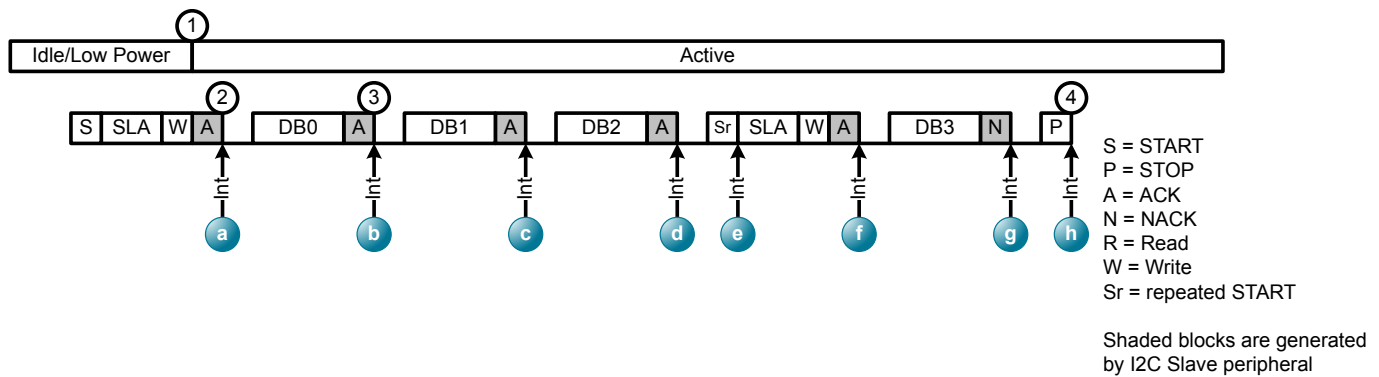
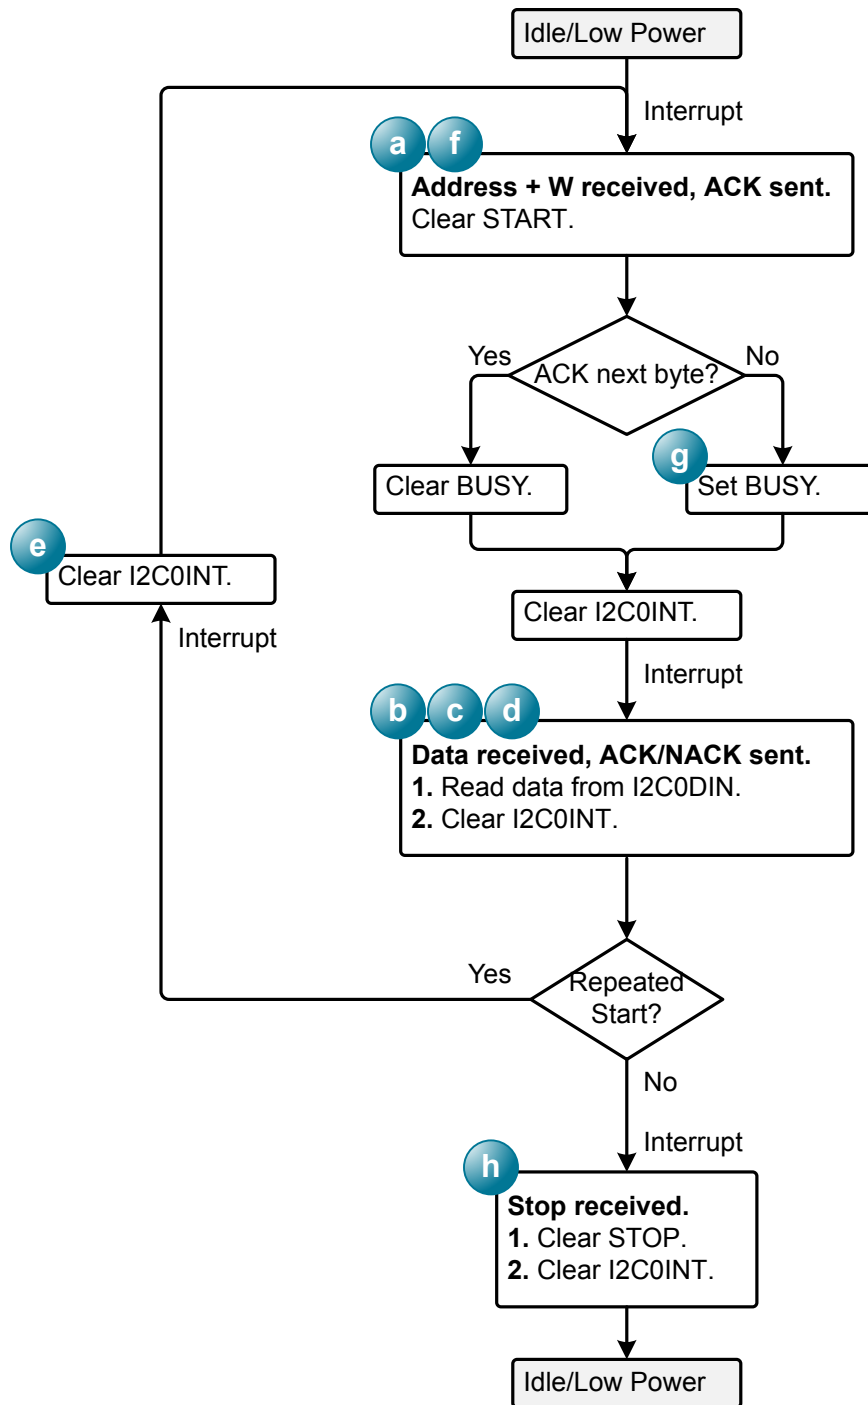

Figure 17.5. Example I2C Write Sequence with the I2C Slave Peripheral
Figure 17.6. I2C Write Flow Diagram with the I2C Slave Peripheral
2. An interrupt occurs after the automatic ACK of the address. The I2C peripheral holds the SCL line low for clock stretching until firmware clears I2C0INT. Firmware should take the actions indicated by Figure 17.6 I2C Write Flow Diagram with the I2C Slave Peripheral on page 242.
Figure 17.5 Example I2C Write Sequence with the I2C Slave Peripheral on page 241 demonstrates an example sequence, including a repeated start, and Figure 17.6 I2C Write Flow Diagram with the I2C Slave Peripheral on page 242 describes the I2C Write sequence and firmware actions in each interrupt.
Note: Firmware can leave the BUSY bit as 0 in step F in the Figure 17.5 Example I2C Write Sequence with the I2C Slave Peripheral on page 241 sequence. In this case, the master will receive an ACK instead at step G could still generate a STOP bit immediately after the ACK.